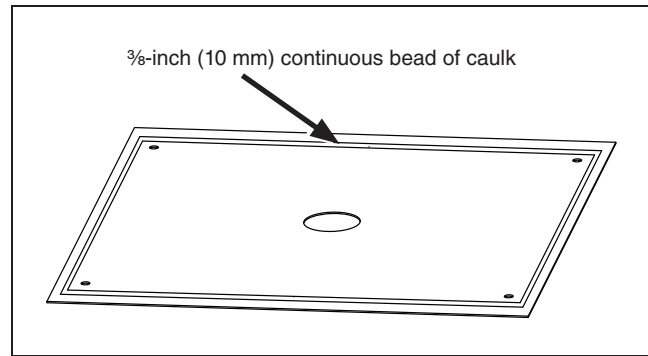

Figure 5. Base plate with caulking.
- STEP 8.** Lay a continuous $\frac{3}{8}$ -inch (10-mm) bead of caulk around the perimeter of the base plate, about $\frac{3}{4}$ -inch (19 mm) from the outer edge, where the base of the bay or bay assembly will come into contact with it. See Figure 5. A room-temperature vulcanizing (RTV) silicone rubber compound is recommended. The RTV compound must not be allowed to set up before the bay or bay assembly is positioned on top of the base plate.